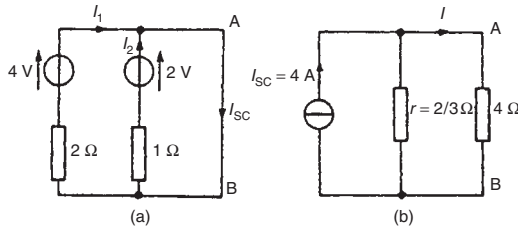

Figure 13.57
- (i) The  $4\ \Omega$  branch is short-circuited as shown in Fig. 13.57(a)
- (ii) From Fig. 13.57(a),